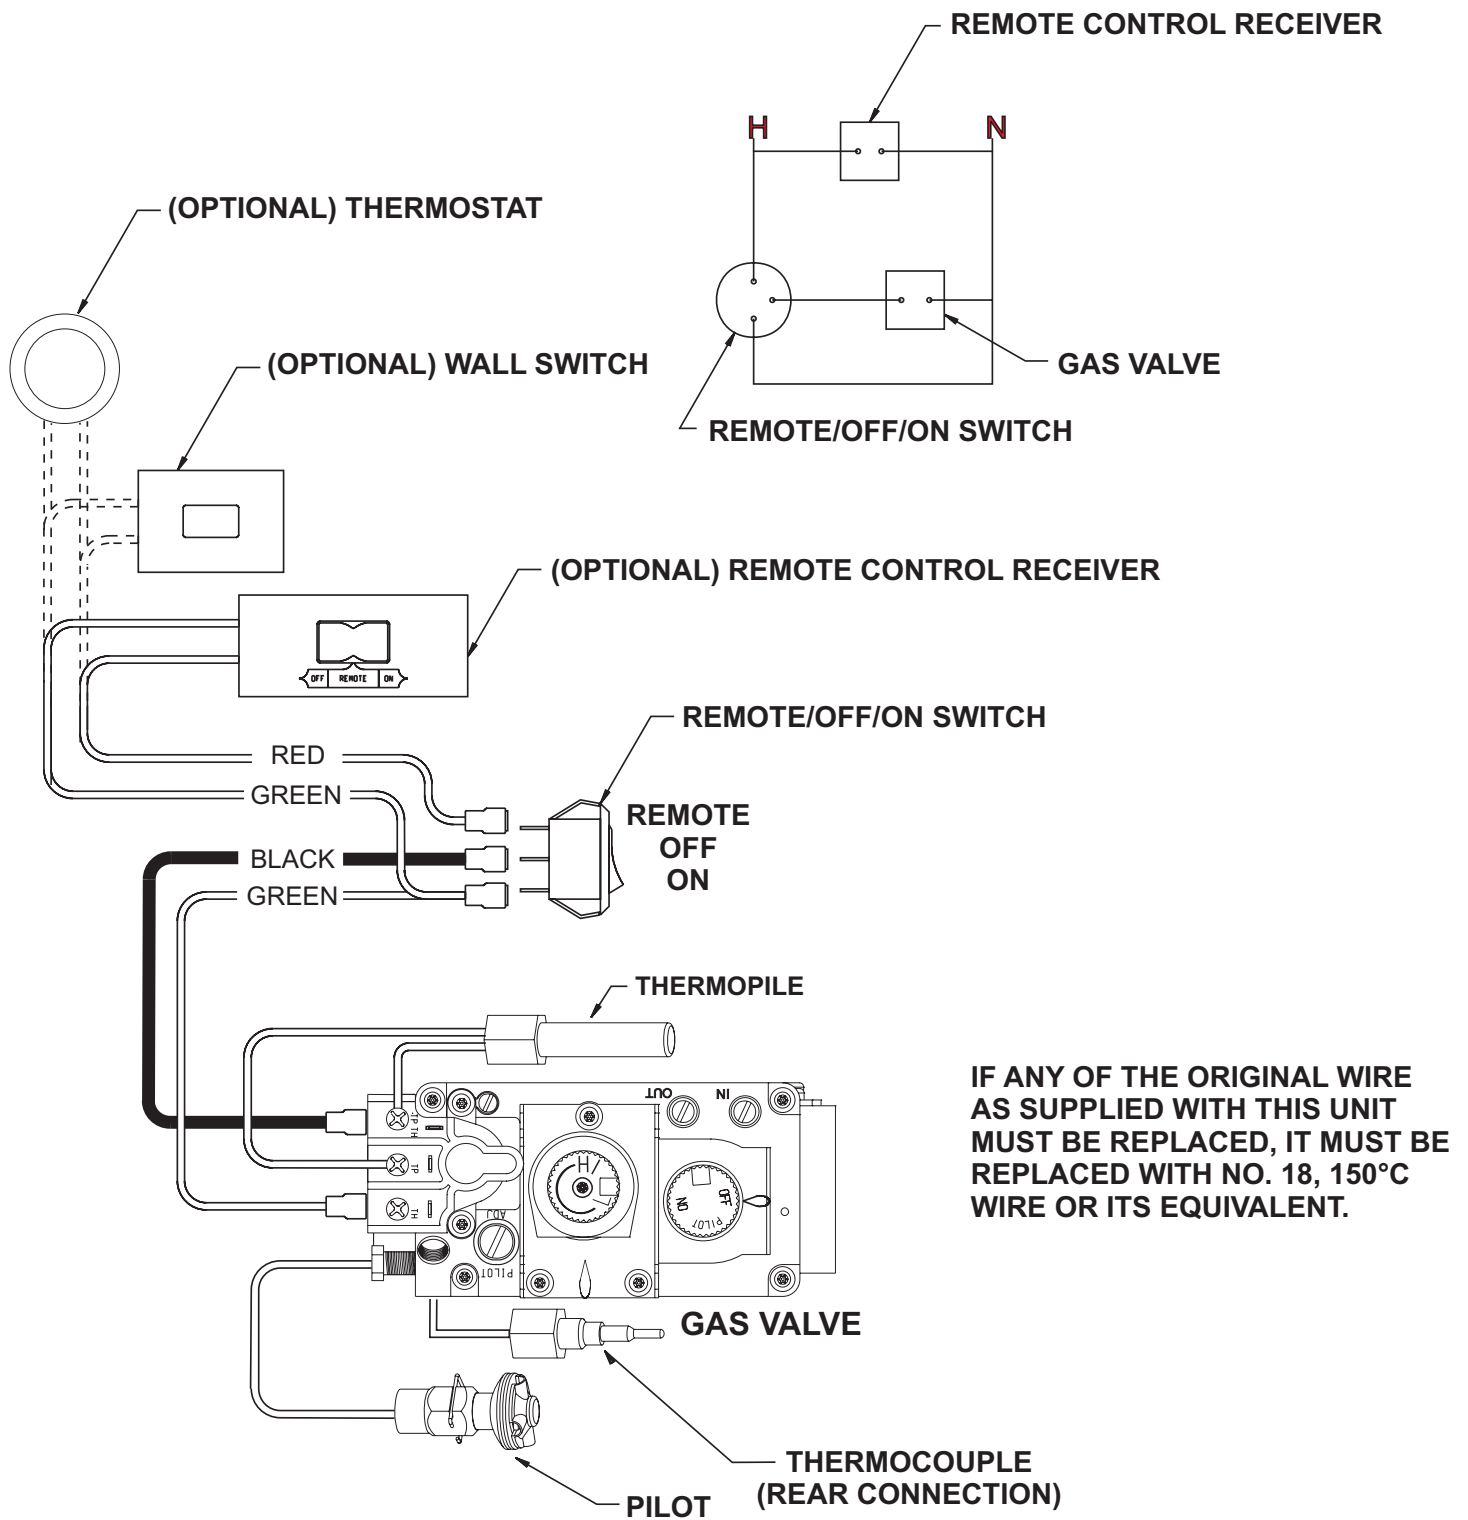

Figure 70
**NOTICE:** The gas control valve allows you to increase or decrease the height of the main burner flame. The control valve has a pressure regulator with a knob as shown in **Figure 70**. Rotate the knob clockwise to "HI" to increase the flame height and counterclockwise to "LO" to decrease the flame height.